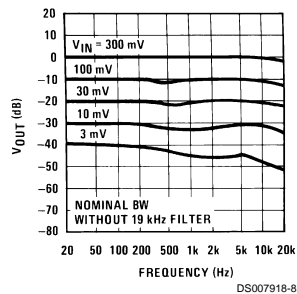

FIGURE 3. Output vs Frequency
*Figure 3* is an interesting curve and deserves some discussion. Although the output of the DNR system is a linear function of input signal, the  $-3$  dB bandwidth is not. This is due to the non-linear nature of the control path. The DNR system has a uniform frequency response, but looking at the  $-3$  dB bandwidth on a steady state basis with a single frequency input can be misleading. It must be remembered that a single input frequency can only give a single  $-3$  dB bandwidth and the roll-off from this point must be a smooth  $-6$  dB/oct.